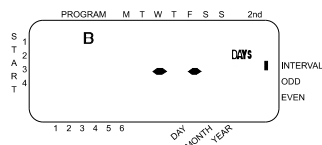

Figure 7: LCD Display with Watering Interval
- Turn the rotary dial to Watering Interval. The cursor will blink to the left of the word Interval [See Figure 7].